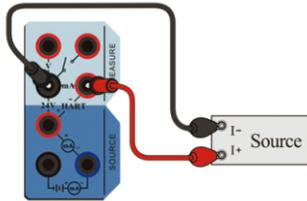
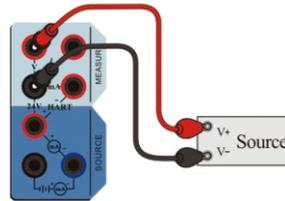

Figure 3-8 Current measure
Figure 3-9 Voltage measure
- Connection: complete the electrical connection as shown in Figure 3-8 or Figure 3-9.